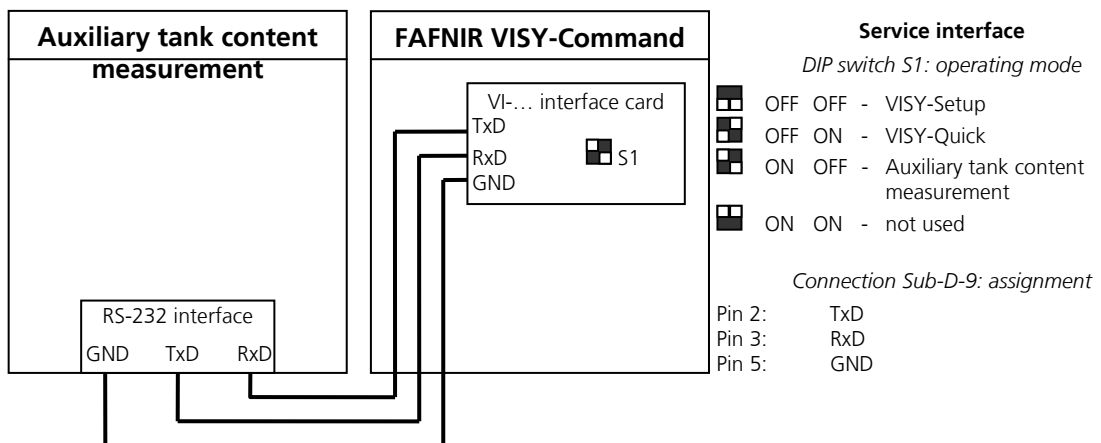

Figure 21: Connection of auxiliary tank content measurement to VISY-Command
- (5) Set the DIP switches on the VI-... interface card to the ON OFF position (see Figure 21). The interface card now starts data interrogation of the auxiliary tank content measurement system. If everything is correctly wired and configured, the data for all tanks should now be available in the petrol station control system or cash system. Delays could arise if the cash system or petrol station control system only occasionally interrogates the tank content measurement system data.
- (6) If you want to check whether data from the auxiliary tank content measurement system has been correctly read by VISY-Command, set the DIP switches back to the OFF / OFF position (service interface mode = VISY-Setup) and connect VISY-Setup to the service interface again. When doing this, make sure that the DIP switches are in the OFF / OFF position before you disconnect the cable to the auxiliary tank content measurement system. By observing this sequence, the data read from the auxiliary tank content measurement system remain in VISY-Command for as long as it has been defined in VISY-Setup, configuration item